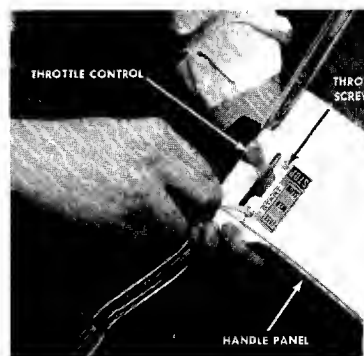

FIGURE 5. THROTTLE CONTROL ASSEMBLY
7. Place the throttle control in the handle panel and assemble it with the two throttle screws using a screw driver. See figure 5.